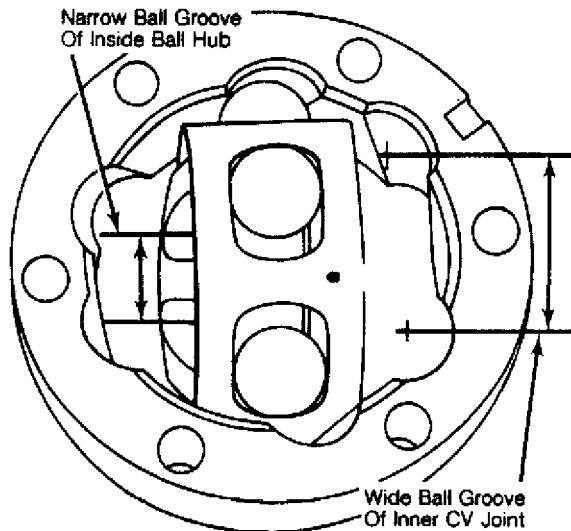

Fig. 3: Installing Volkswagen Ball Hub & Cage
2) Chamfer of ball hub splines must face larger diameter of joint. Rotate ball and cage into position and ensure CV joint wide ball groove and narrow hub groove are on same side of joint. See Fig. 3. Joint is correctly assembled if hub can move over shaft splines by hand.